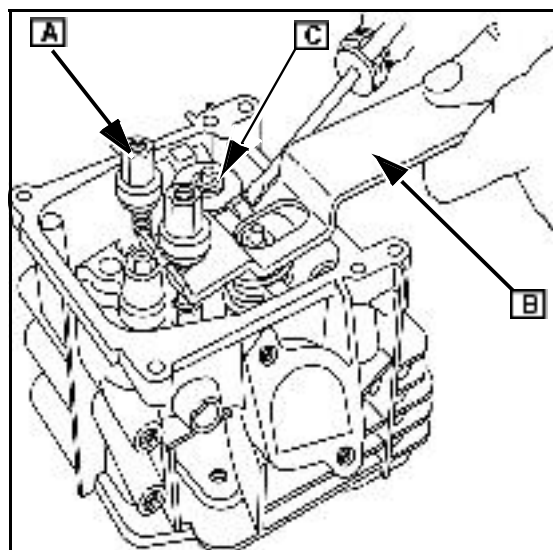

Fig. 10
3. Install rocker arm nuts ([A] Fig. 10) and studs in cylinder head. Do not tighten.
4. Slip end of Valve Spring Compressor #19347 (B), under nut and over valve spring.
6. Gradually release pressure on tool to remove retainer ([C] Fig. 10), spring, and seal(s).